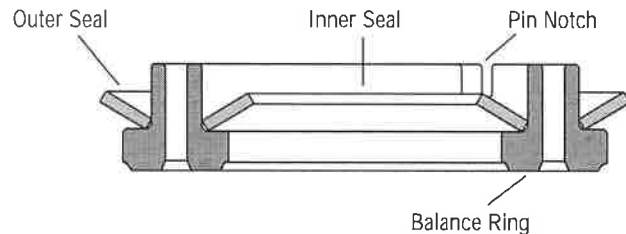

Figure 15
37 Apply petroleum jelly to inner and outer face seals. Install seals on balance ring as shown in Figure 15.
**Important:** Install face seals in the positions shown in Figure 15, or the motor will not operate properly. Do not force or bend the face seals. Any damage to these seals will affect the operation of the motor.